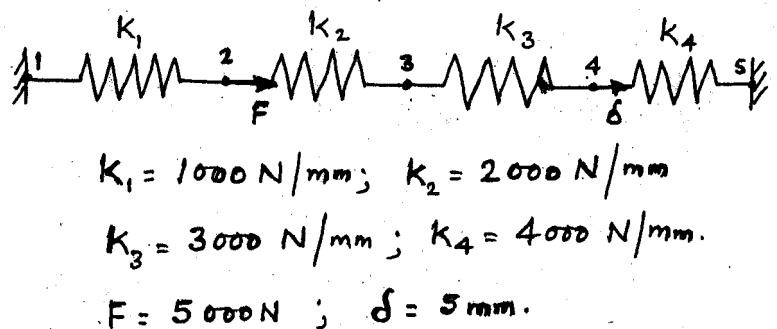

Fig. Q. 1b
1. a) Evaluate the stiffness matrix in the global Cartesian coordinate system for a plane stress triangular element $i - j - m$ defined by the coordinates (4, 4), (10, 6) and (7, 10) respectively, with x-axis of element coordinate system along $i-j$ side of the element. Let $E = 200$ GPa, $\mu = 0.3$ and $t = 10$ mm. (05)
- b) For the spring assemblage shown in **Fig. Q.1b**, evaluate the unknown displacements using **potential energy method**. (05)